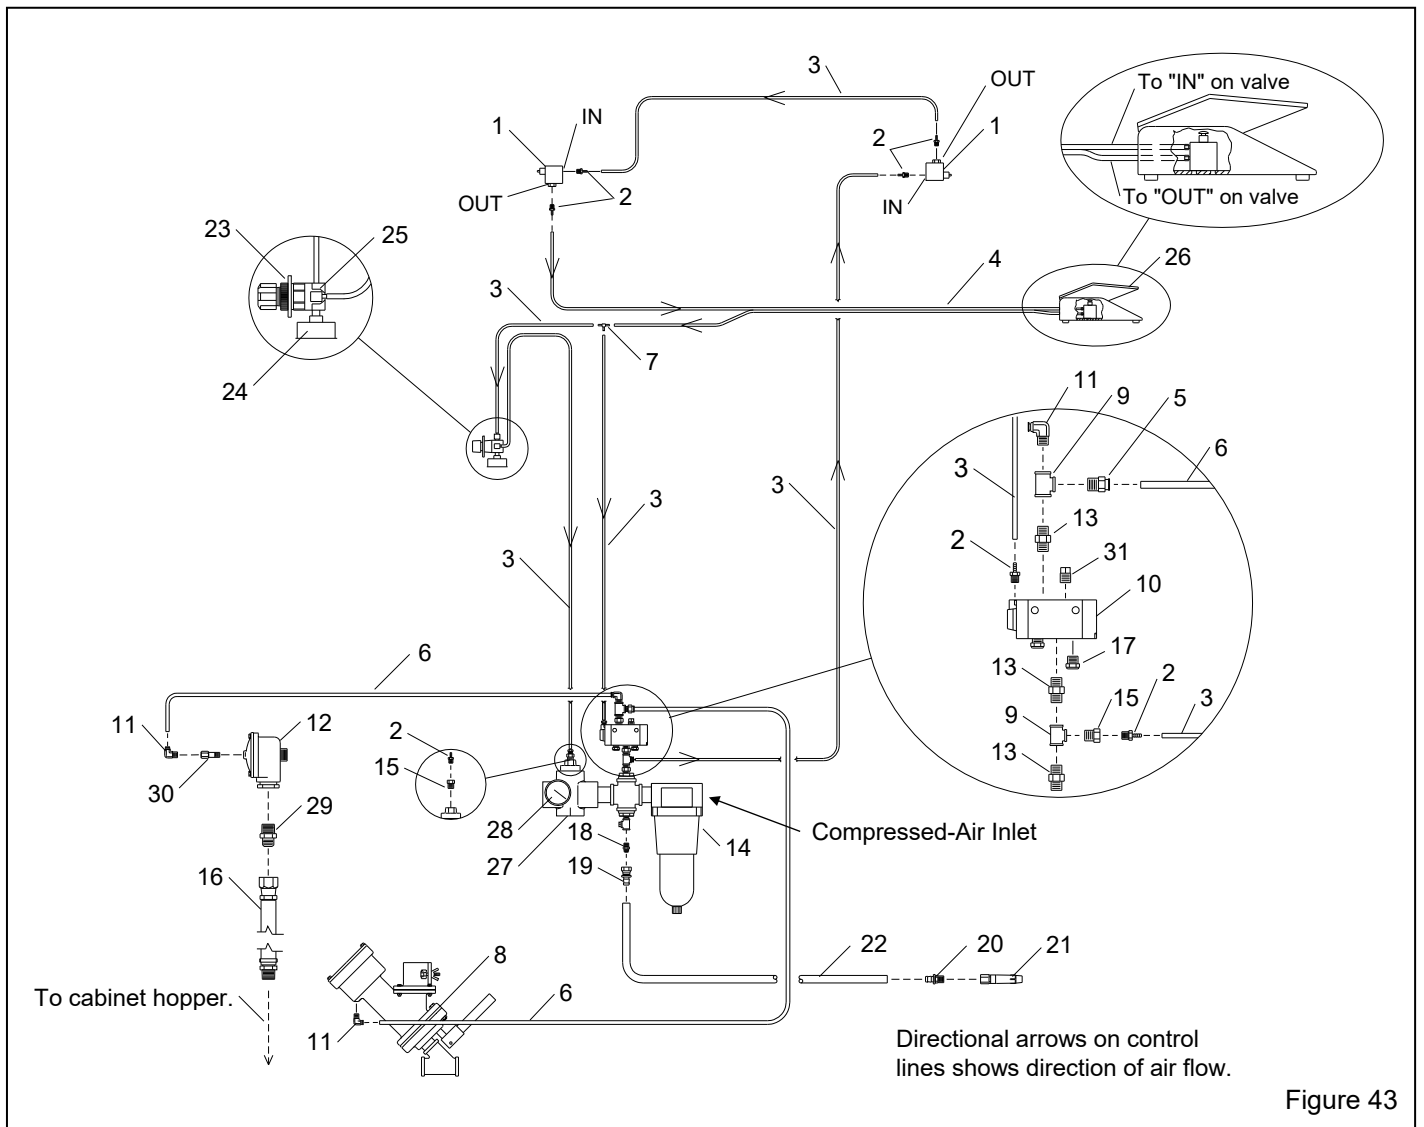

Figure 43
9.7 Plumbing and Cabinet Controls – Figure 43